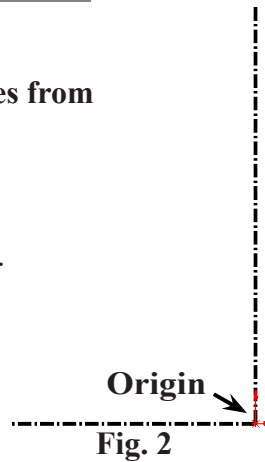

Fig. 2
Step 4. Sketch **vertical and horizontal centerlines from Origin** , **Fig. 2**.